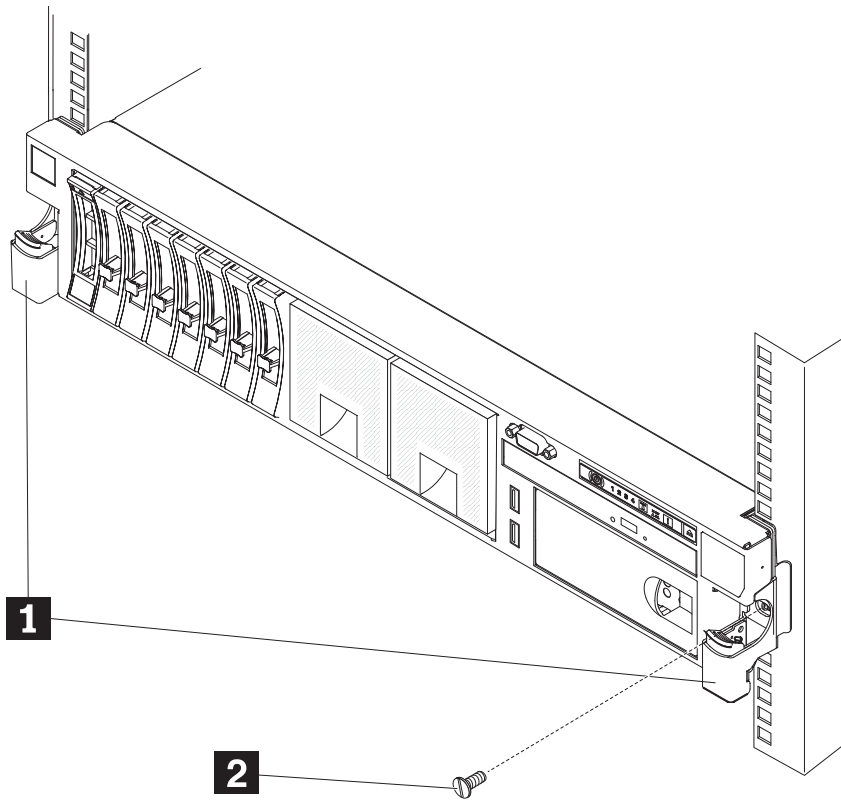

Figure 9. Sliding the node out of the rack and removing the front screws
2. Optional: Remove the front screws and slide the node out of the rack, as shown in Figure 9 on page 25.